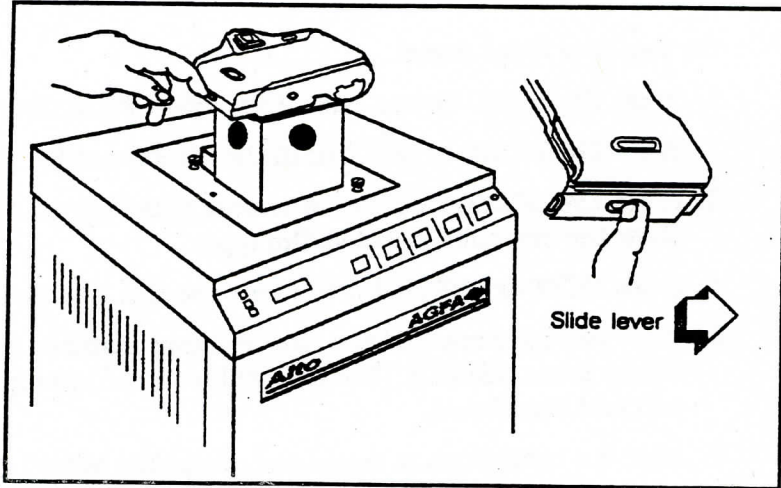

Figure 1.1 Opening the Camera Back.
1. Open the camera back by sliding the camera back lock release, located on the left side of the camera (see Figure 1.1).